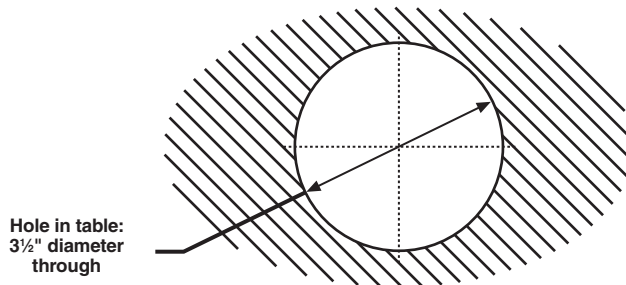
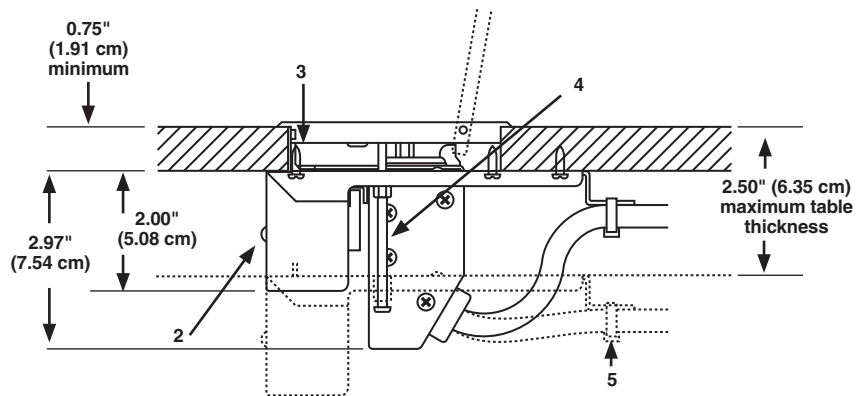

Figure 3-2. Hole in table.
Figure 3-3. Installing the Easy-AV Drop Box.
Follow the steps below and refer to Figures 3-2 and 3-3 to install the Easy-AV Drop Boxes. The numbers 2–5 in Figure 3-3 correspond to the numbered steps below.
1. Using a standard hole saw, cut a 3½" diameter hole in the table. See Figure 3-2.
3. Drop the Easy-AV Drop Box assembly into the table hole. See Figure 3-3.
4. Install (2) long clamping screws through the mounting plate into the cover rim. Tighten the long nuts to the mounting plate.